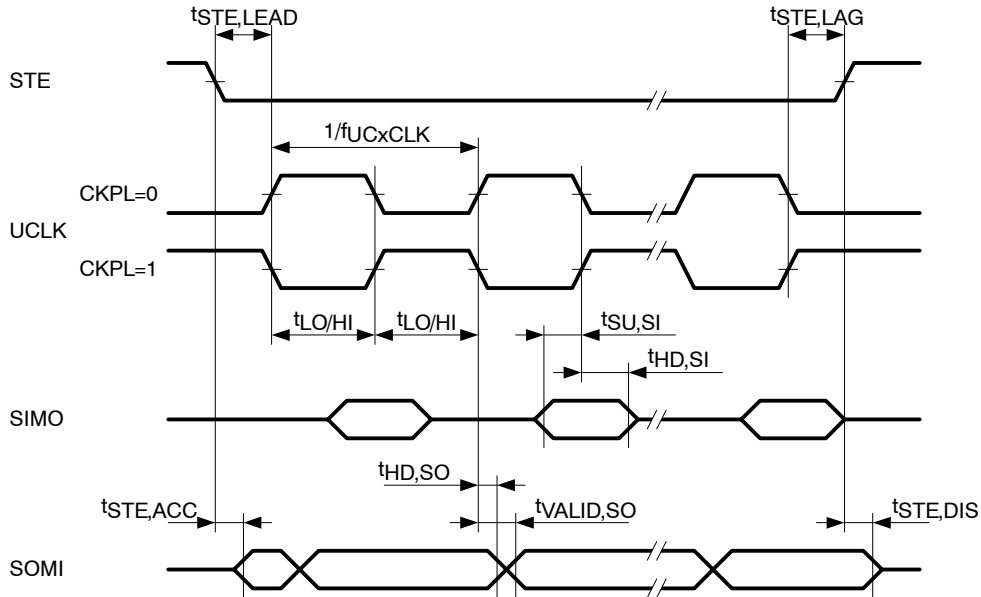
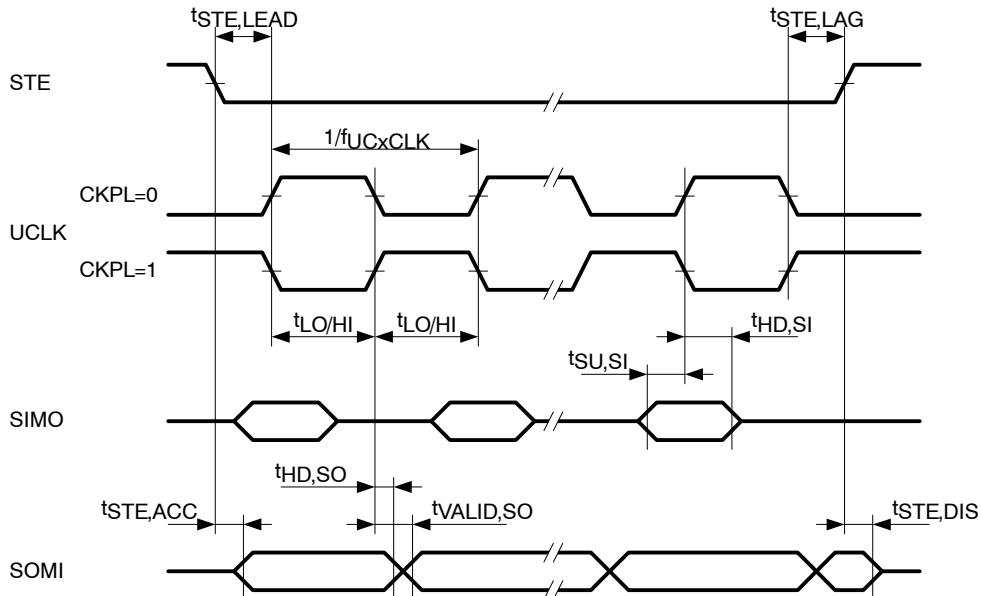

Figure 23. SPI Slave Mode, CKPH = 0
Figure 24. SPI Slave Mode, CKPH = 1
**USCI (SPI slave mode) (see Note 1, Figure 23, and Figure 24)**
2. Specifies the time to drive the next valid data to the SOMI output after the output changing UCLK clock edge. Refer to the timing diagrams in Figure 23 and Figure 24.
3. Specifies how long data on the SOMI output is valid after the output changing UCLK clock edge. Negative values indicate that the data on the SOMI output can become invalid before the output changing clock edge observed on UCLK. Refer to the timing diagrams in Figure 23 and Figure 24.